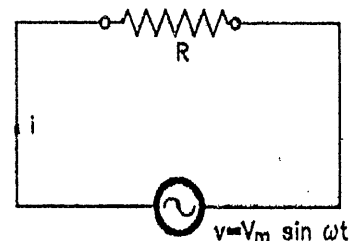

FIG. 2.28 : PURELY RESISTIVE CIRCUIT
- Consider a circuit having a resistor of resistance R ohms across the terminals of an alternating voltage source as shown in Fig. 2.28.